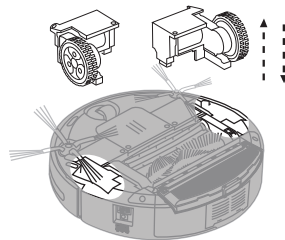

Fig. 2
2. Take out the left/right wheel and clean them with the brush (Refer Fig. 2). Don't wash in water.